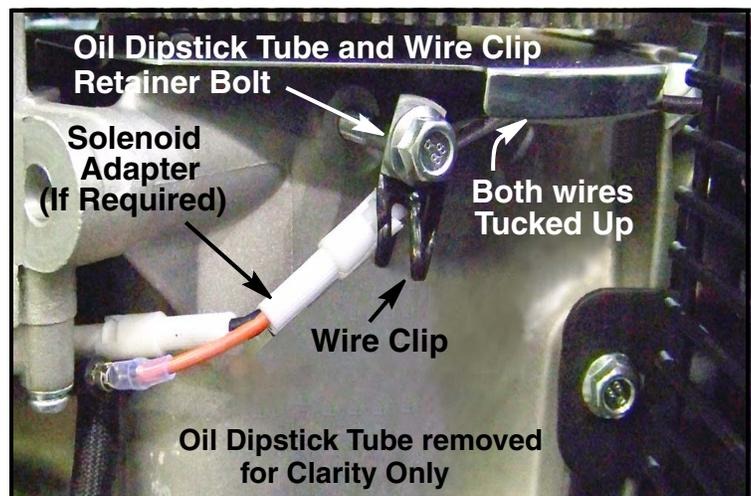

FIGURE 10
9. Open the wire clip located behind the oil dipstick tube and the wire clip located next to the shroud mounting stud near the flywheel fan, see Figures 10 and 5B.
24. Route the new solenoid wire as shown in Figures 5A, 5B and 10. Connect the fuel shut-off solenoid wire to the stator's fuel shut-off solenoid wire. Depending on whether you have Scenario "A" or "B" (see OVERVIEW and SCENARIO "A" and "B" on page 1), connect the single stator wire to the solenoid wire. See Figure 10.